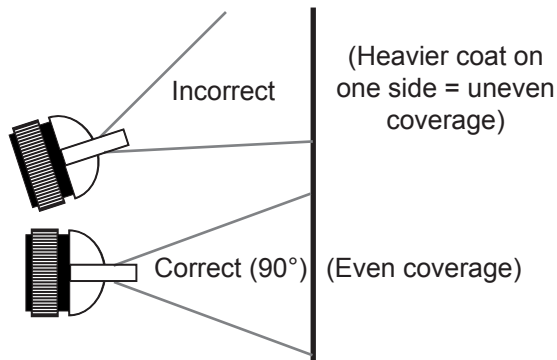

Figure 3
1. Keep the spray gun at a right angle to the workpiece - See Figure 3.